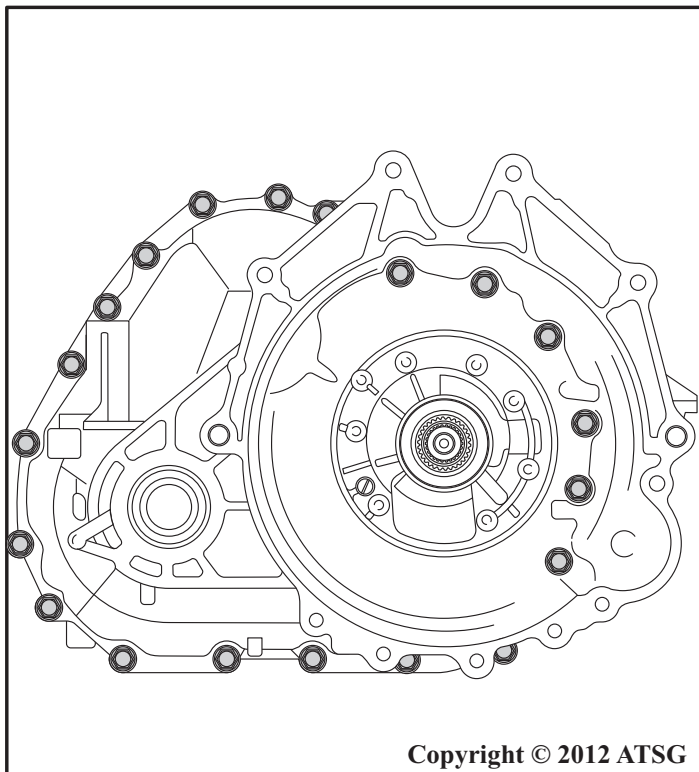

Figure 63
21. Remove the 20 torque converter housing bolts, as shown in Figure 63 and 64.
Note: Six of these bolts are inside of the converter housing, as shown in Figure 63.